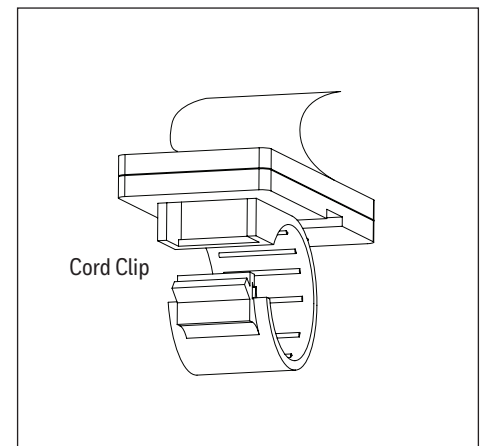

Figure 1.6
6. Use cord clips to secure the fan's power cord to ceiling in a path toward the power outlet. Peel the backing off of the double-sided tape preassembled to back side of each cord clip (Figure 1.6).